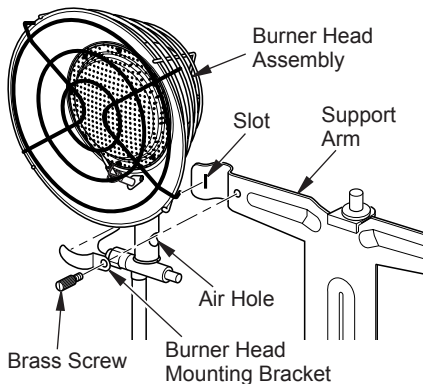

Figure 3 - Attaching Burner Head Assembly to Support Arm
- Mount the burner assembly onto the support arm using the burner head mounting brackets and brass screws as shown in Figure 3. Place side of bracket into the slot on support arm. Secure with screw. Make certain that the air holes on the sides of the burner tube are not blocked. Securely tighten the burners into place.